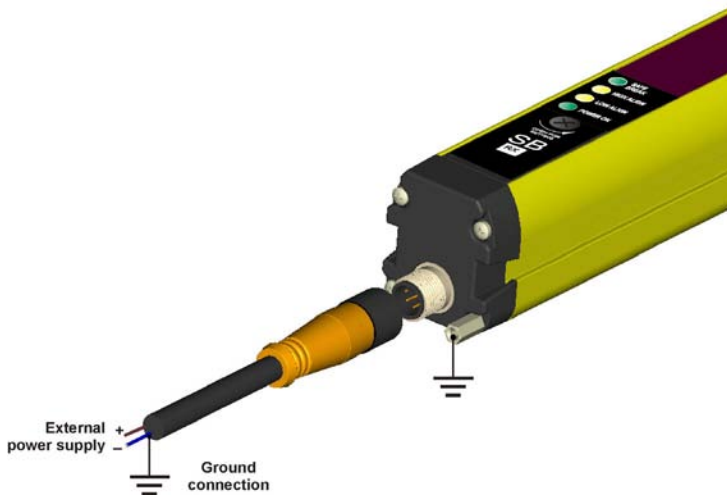

Fig. 14
- Use only shielded cables for the connection of the two units. Fig.14 shows the correct connection of both the units and the cable when ground connection is used.
Respect the connection illustrated in page 20 (Fig. 14) when ground connection of the entire system is used.